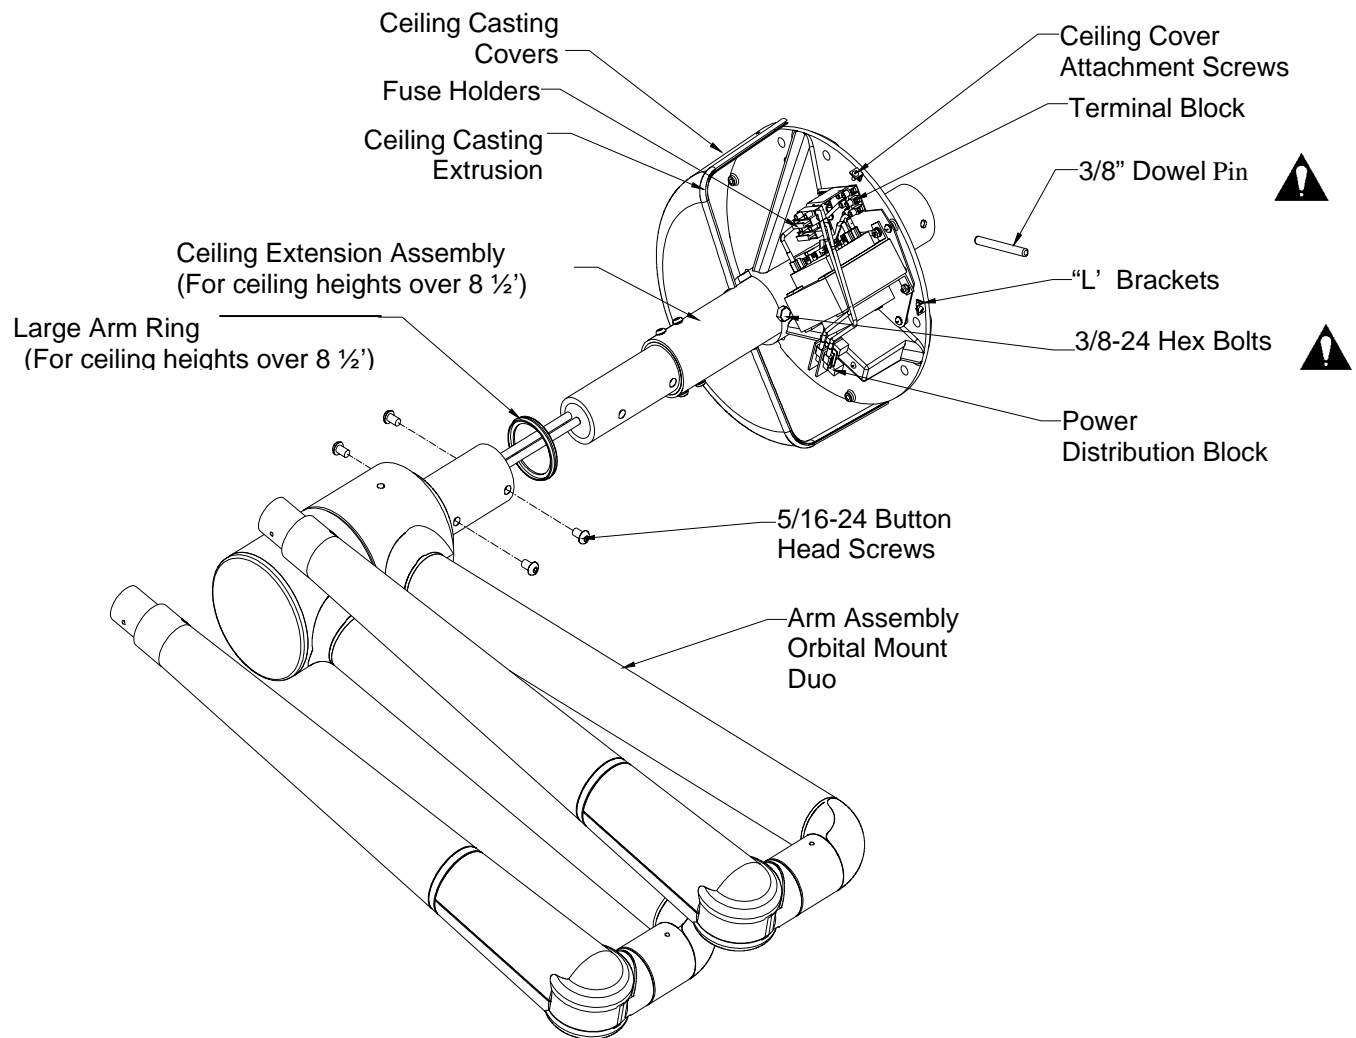

Figure 20- Duo Ceiling Mount (Orbital)
- With the ceiling casting laying on the floor or on a bench, slide the arm assembly into the hole in the ceiling casting in the direction shown in Figure 20. Push the rod through the casting exposing the hole at the end of the rod. Make sure to route the cables from the arm assemblies to the ballast assemblies.
- With the ceiling casting laying on the floor or on a bench, slide the ceiling extension assembly into the hole in the ceiling casting in the direction shown in Figure 20. Push the rod through the casting exposing the hole at the end of the rod.